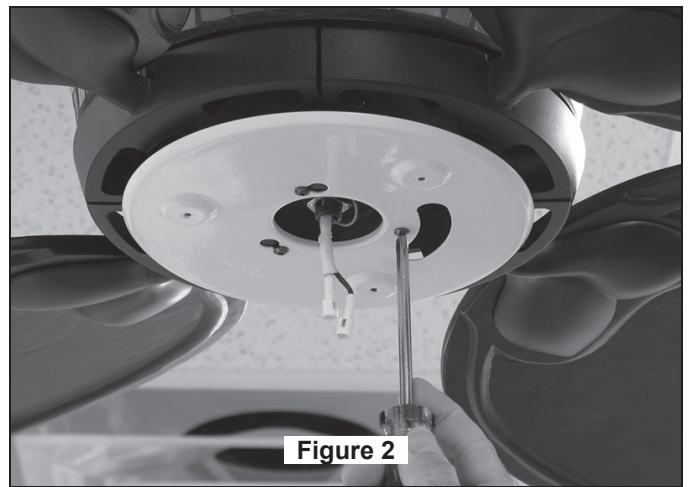

Figure 2
5. Route wires and support cable through opening in Canopy. Position Canopy on fan shown with open side facing up. (Figure 2)
1. Using the  $\frac{3}{8}$ " x 2" lag bolt and flat washer, attach safety cable to ceiling joist or wood structural member. The lag bolt will pass through the flat washer, safety cable loop, the junction box and into the building structure (Figure 2). You will first drill a  $\frac{1}{4}$ " pilot hole into the building structure to prevent splitting or cracking.
**NOTE:** Ceiling support cable must be fastened between flat washer and ceiling junction box (Figure 2).
- Slide Receiver Unit into the Hanger Bracket (Fig 2).
4. Attach assembled blades and blade holders to the motor hub using the provided screws. (Figure 2)
2. Securely attach the Adapter Plate to the Support bracket and tightening three screws. (Figure 2)